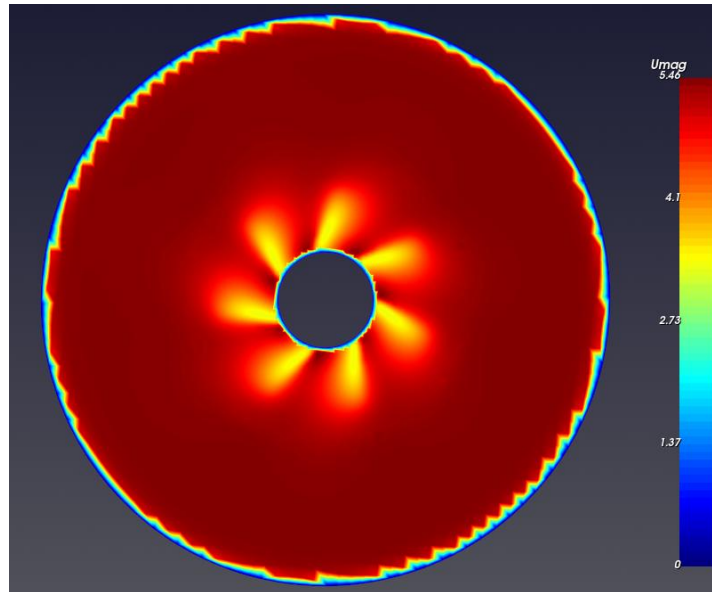

Figure 102. Velocity contour in XY plane.
Create a default plane (XY) in **Post entities** panel and visualize Velocity magnitude ( $|U|$ ) (Figure 102).